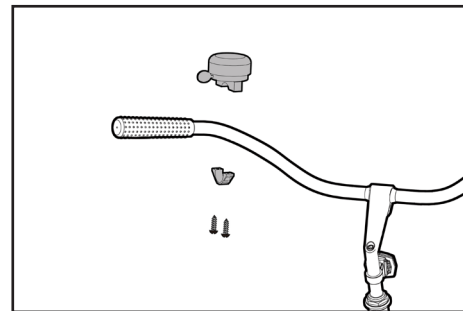

Figure 36
To install the bell on your bike, use the (A) Standard Phillips Head Screwdriver to remove the two screws from the mount, along with the bottom half of the bell mount. Place the top half of the bell mount within easy reach of your thumb on the handlebars, place the bottom half of the bell mount in place around the handlebars, and reinsert and tighten the screws (see Figure 36).